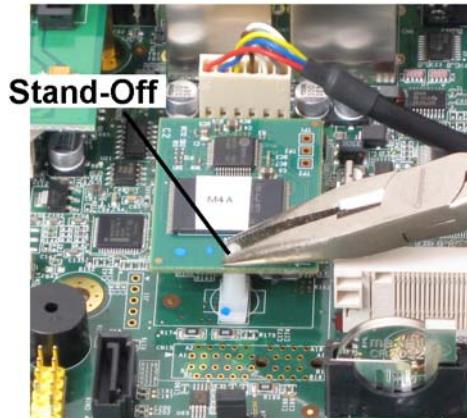

Figure 3-17: Removing the USB Hard Drive
2. Refer to Figure 3-17 below. Use a pair of needle nose pliers to pinch the stand-off and remove the device.